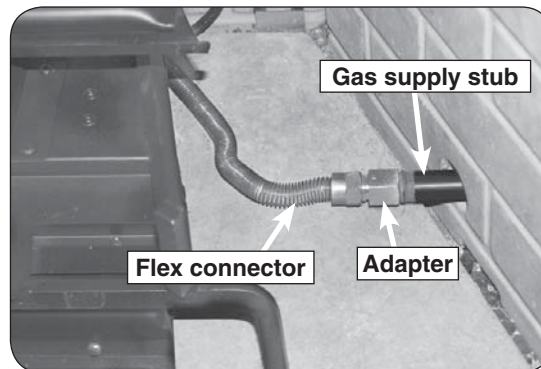

Fig. 12-1 Connect gas supply
2. Locate the gas-supply stub inside the fireplace and remove the cap, if attached (reference Fig. 12-1).
4. **Be sure gas to the fireplace is off.** Remove the adapter connected to the flex connector (pre-installed on the burner system). Attach the adapter to the gas-supply stub using a pipe compound resistant to all gasses. Tighten securely. Then attach the open end of the flex connector to the adapter. Tighten securely (see Fig. 12-1).